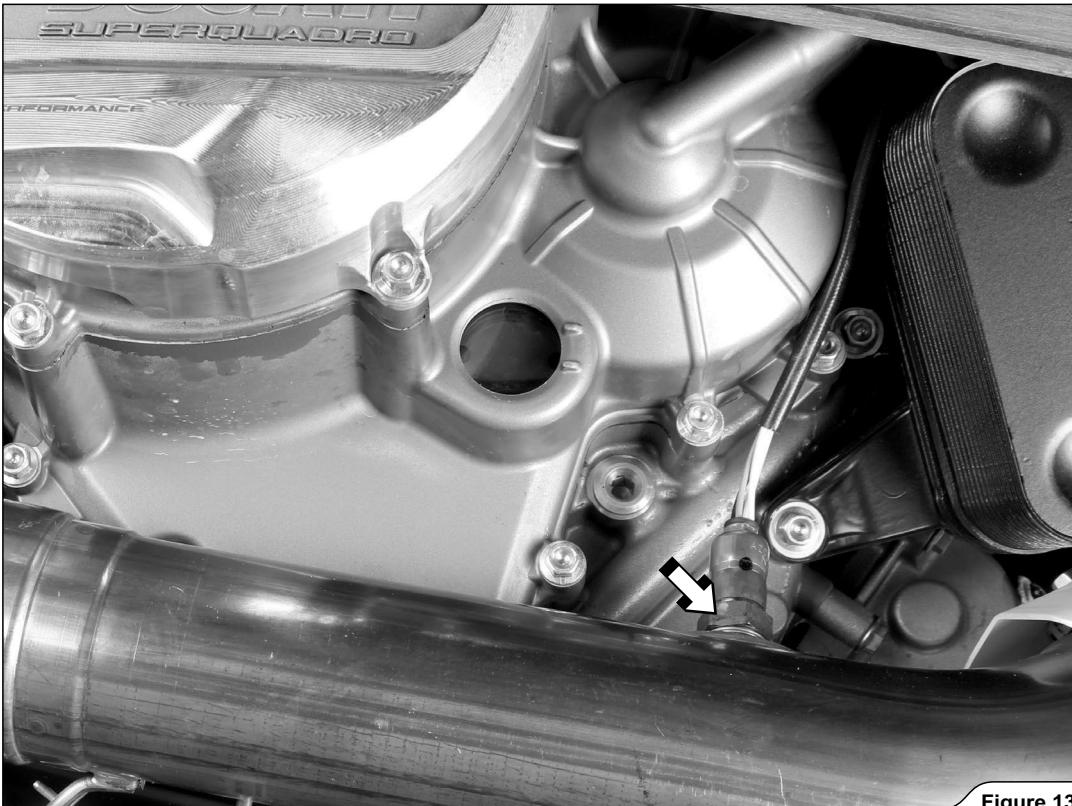

Figure 13
3. Carefully unscrew the front lambda sensor (Figure 13).